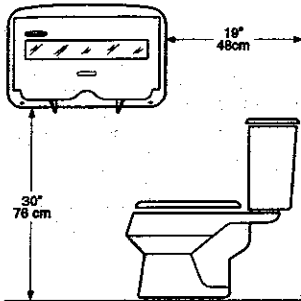
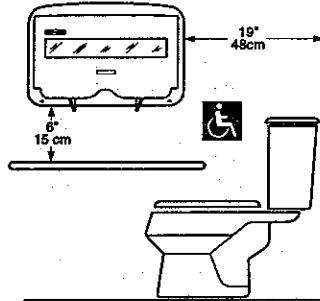

Figure 1
Figure 2
1. Locate the dispenser on the stall wall according to Figure 1. For a handicapped stall, locate according to Figure 2.